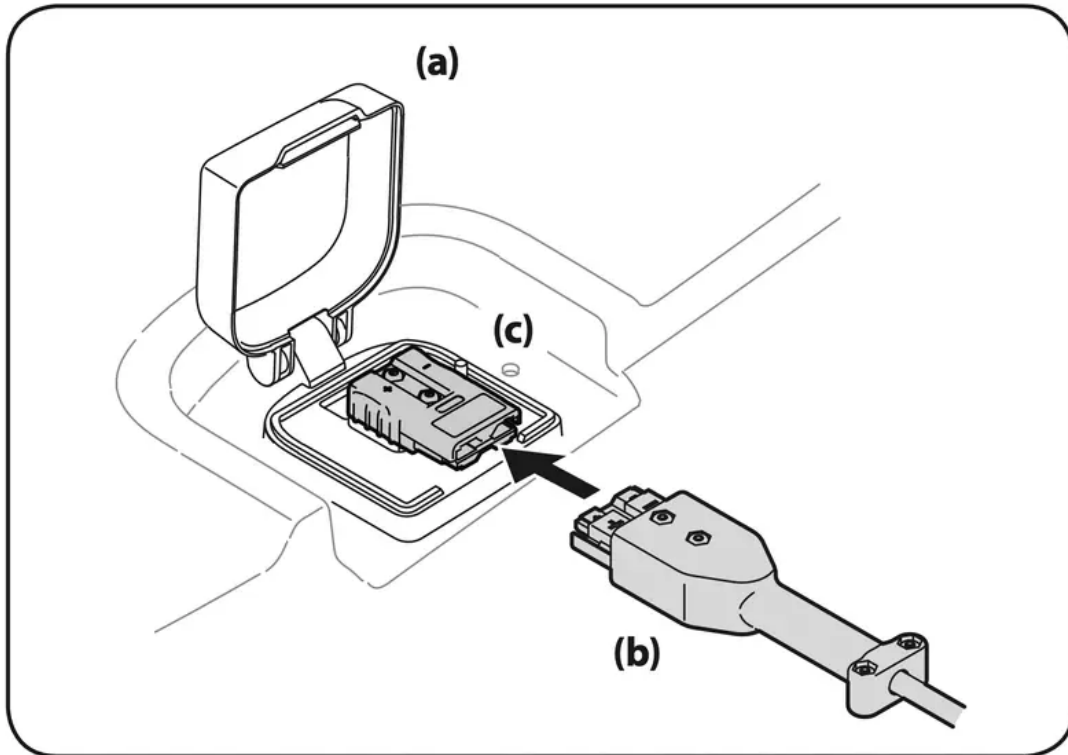

Figure 16
2. Insert the charging cord (b) into the charge port (c). Plug charger cord (b) into wall outlet. See Figure 16.